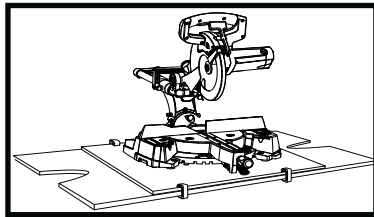

Fig 10
2) For portable use, place the saw on a 20mm (approx) thick piece of plywood. Bolt the base of the mitre saw securely to the plywood using the mounting holes on the base. Use G-clamps to clamp this mounting board to a stable work surface at the worksite. (See fig. 10)